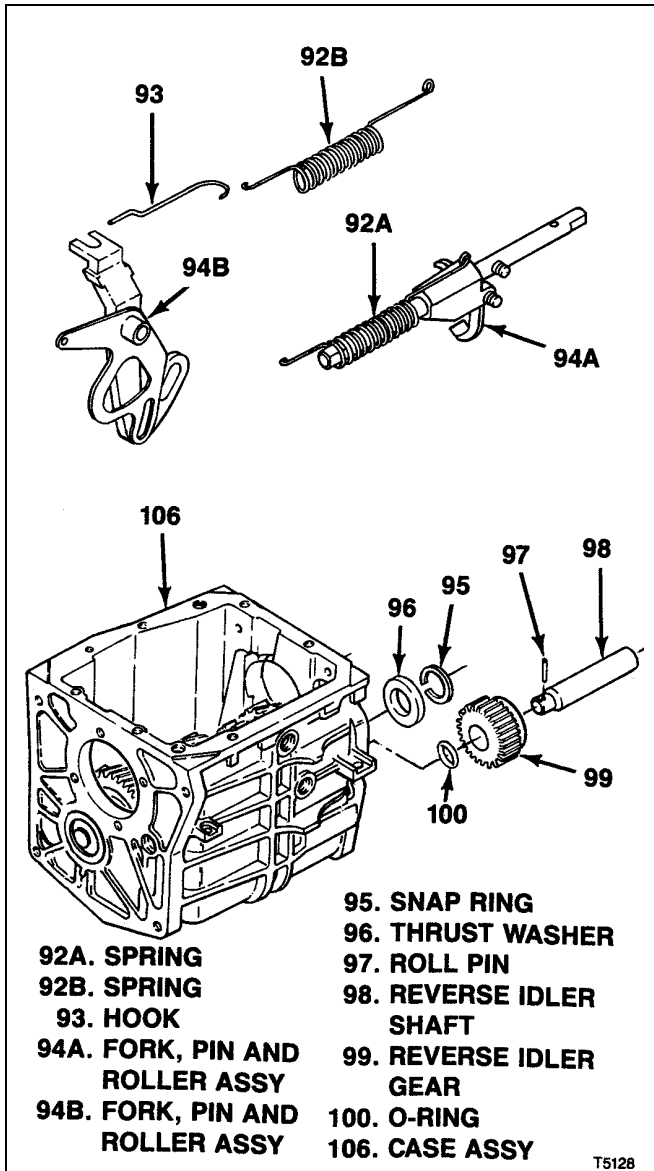
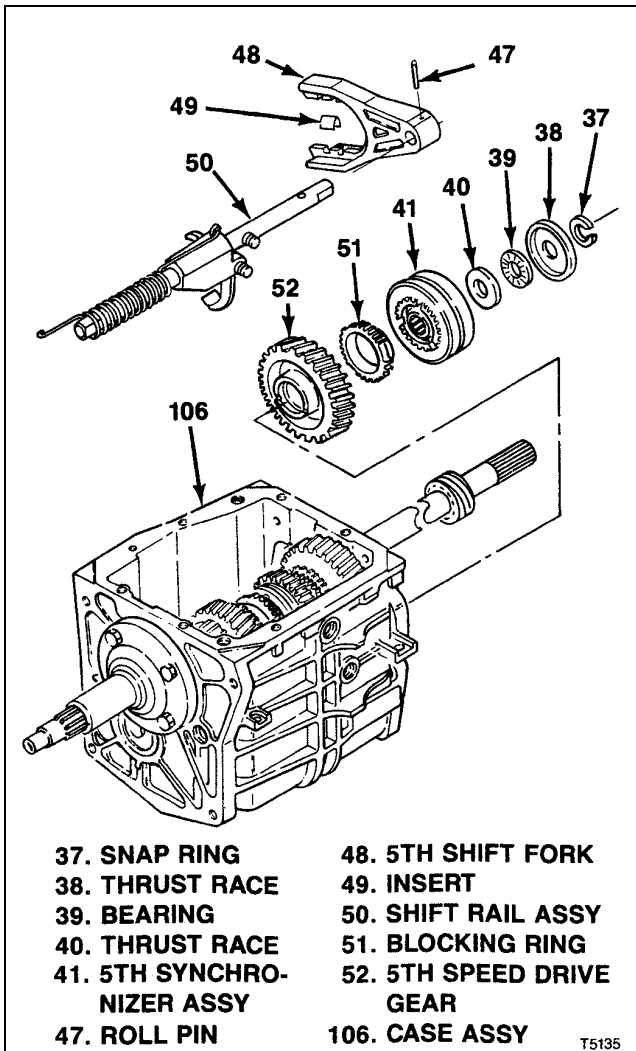

Figure 7-6. T5 STD Reverse Fork and Idler Gear
Figure 7-13. T5 STD 5th Gear, Shift Fork and Synchronizer
7-9. INSTALLATION OF T5 STD REVERSE FORK AND IDLER GEAR. With assembly completed as described through paragraph 7-8, proceed as follows (see figure 7-6):
7-15. INSTALLATION OF T5 STD 5TH GEAR , SHIFT FORK AND SYNCHRONIZER. At rear of transmission case (106), install parts as follows (see figure 7-13):
- b. Attach 5th shift fork (48) to shift rail assembly (50) with roll pin (47). Install inserts (49) on 5th shift fork.
- c. Engage 5th shift fork (48) with previously assembled (paragraph 7-7) 5th synchronizer assembly (41) and install together in transmission noting the following:
1. Install 5th synchronizer assembly (41) over rear end of countershaft gear (105).
2. Guide shift rail assembly (50) through reverse fork, pin and roller assembly (95A or 94B, figure 7-6) and, when used, spring (92A, figure 7-6) previously installed.
On units with fork, pin and roller assembly (94B, figure 7-6), 5-R shift lever is permanently attached to the fork. In the following step, it is necessary to engage lever with roller on shift rail (50, figure 7-13) only.
- a. Work 5-R shift lever (36) into engagement with rollers on previously installed shift rail assembly (50, figure 7-13) and fork, pin and roller assembly (94A, figure 7-6).
- b. From outside transmission install pivot pin (34) through case and 5-R shift lever (36 or part of 94B, figure 7-6). Torque pin to 20 lb-ft (27Nm).
- c. Inside transmission, attach lever to pin with retaining ring (33).
- e. Using needle nose pliers, hook free end of previously installed spring (92A or 92B, figure 7-6) on pin in transmission case (106).